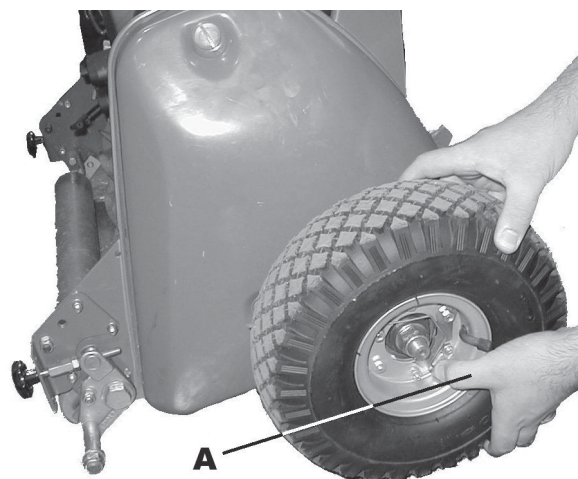

Fig. 9.2
9.2 TRANSPORT WHEELS (Super Certes only) (Fig. 9.2)